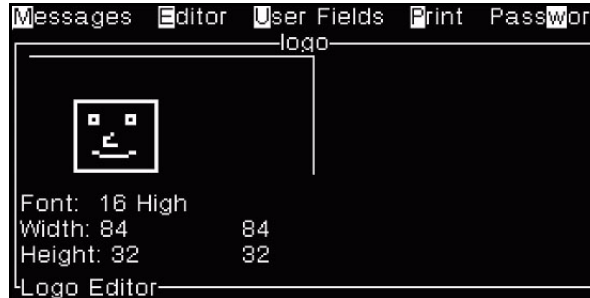

Figure 5-44: Crop Logo
- 1 Press the *Enter* key and a frame appears that shows the current boundaries of the graphic (Figure 5-44).